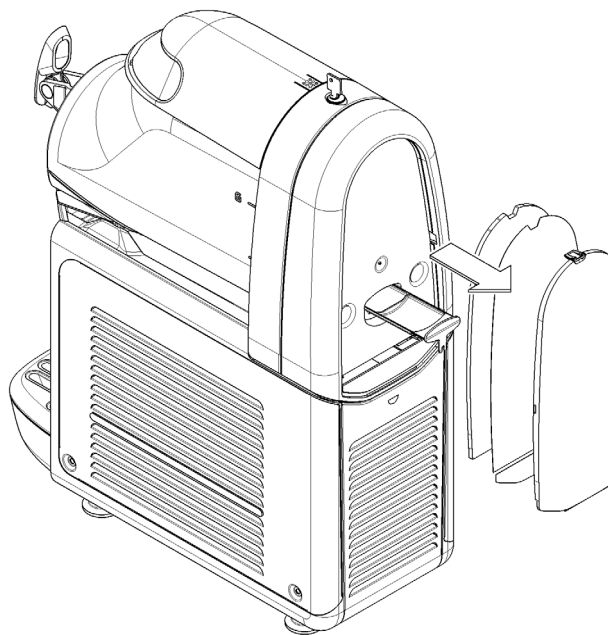

figure 15
**2** Remove any traces of product from the inside of the evaporator by removing the tray as shown (see figure 15).